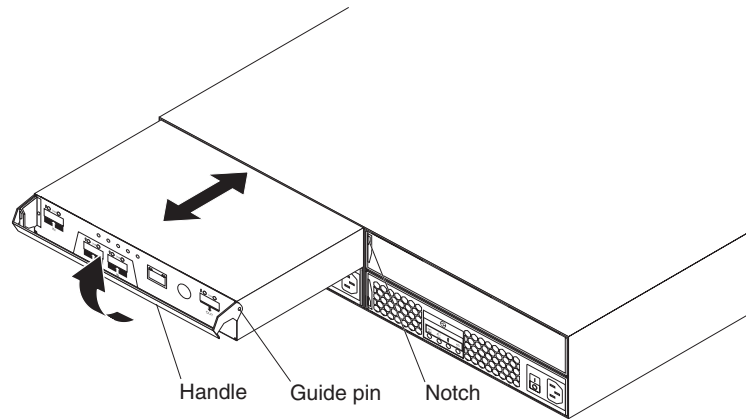

Figure 55. Removing a controller
- Slowly pull the handle away from the chassis to remove the controller from the bay, as shown in Figure 55.